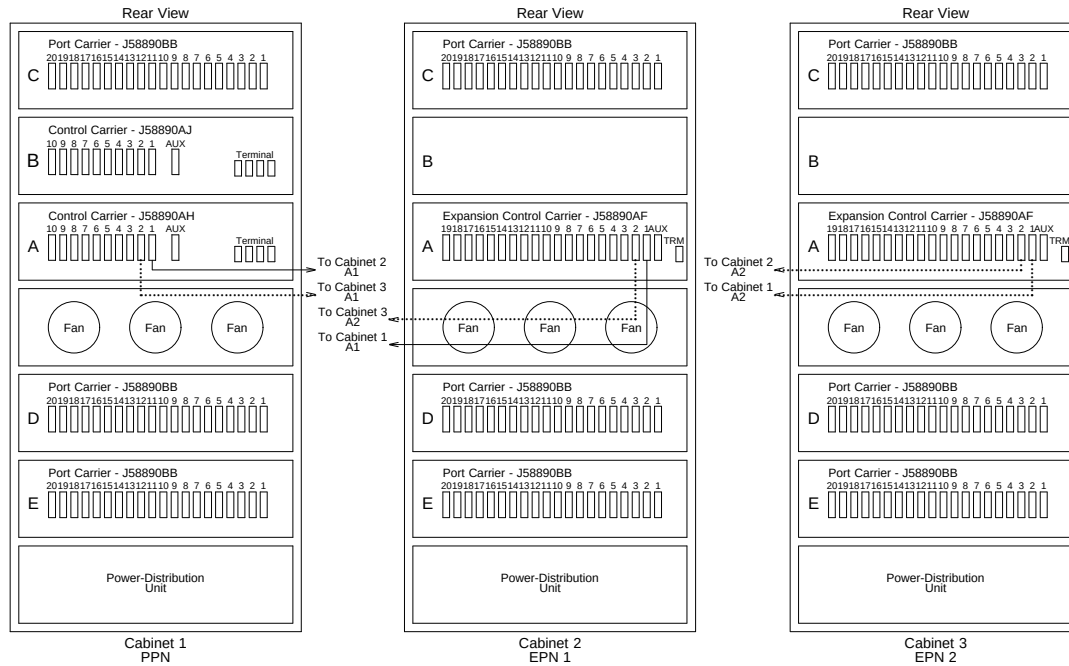
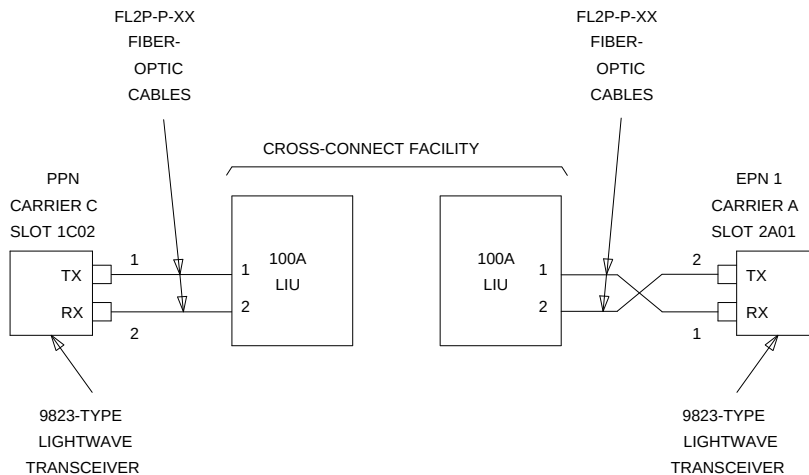
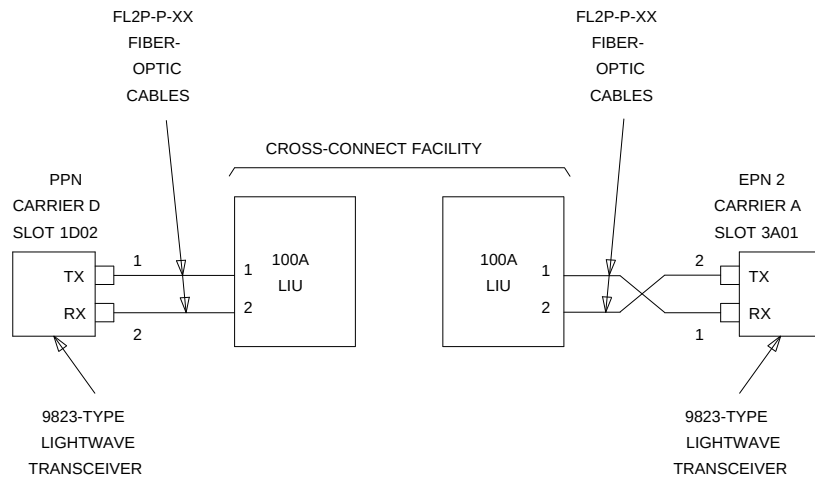
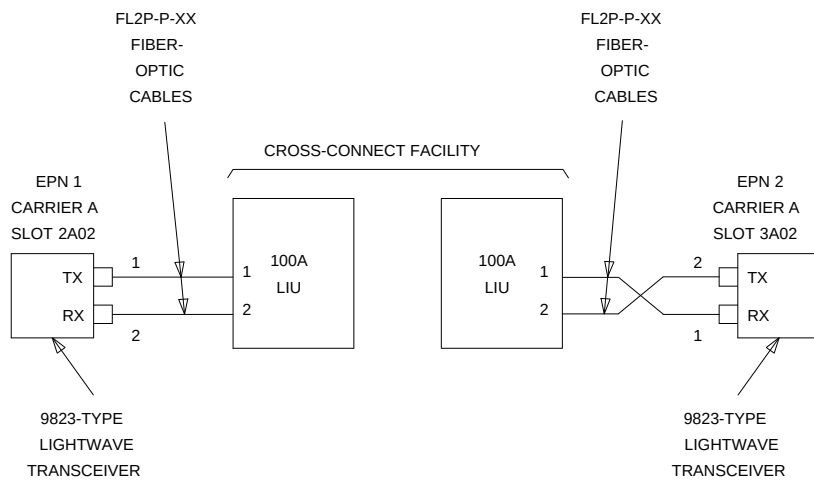

Figure 7-29. High-Reliability DEFINITY ECS Release 5 with Two or Three Port Networks
Figure 7-30. Fiber-Optic Connections PPN to EPN1
Figure 7-31. Fiber-Optic Connections PPN to EPN2
Figure 7-32. Fiber-Optic Connections EPN1 to EPN2
1. Behind control carrier A of PPN cabinet 1 (see Figure 7-29 on page 7-66, Figure 7-30, Figure 7-31, and Figure 7-32):